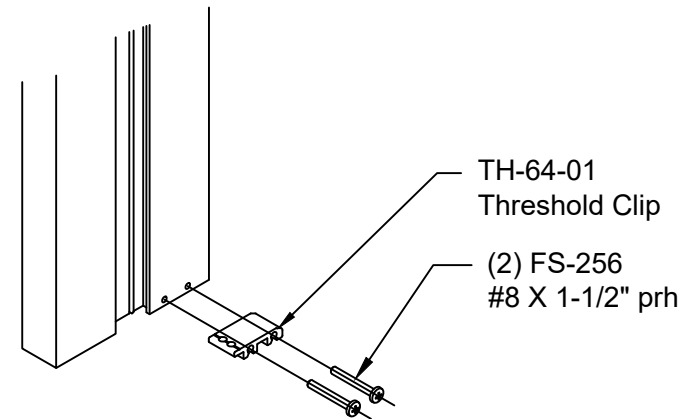

FIGURE 5
2. Attach TH64-01 threshold clips to bottom of door jamb using (2) FS256 #8 x 1-1/2" round head screws. See FIGURE 5, pg 8.
3. Attach TH-64-01 threshold clips to bottom of door jamb using (2) FS-256 #8 x 1-1/2" round head screws. See FIGURE 5, pg 8. Note; threshold will be removed once frame is installed into opening to seal and drill for anchors.